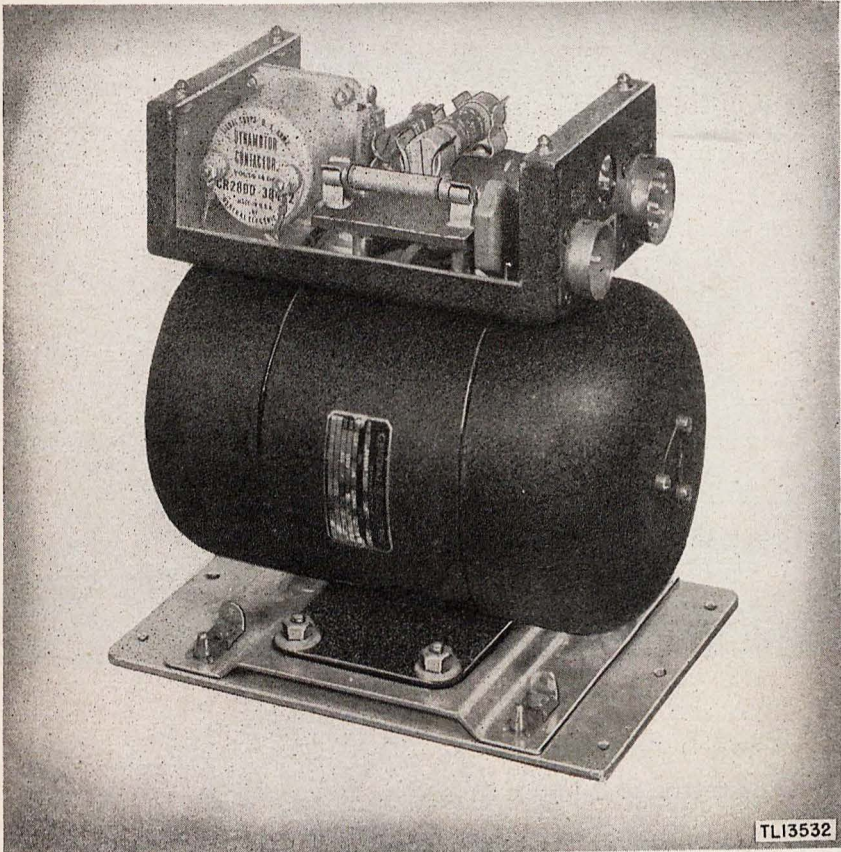

Figure 8. Dynamotor Unit BD-77-().
c. DYNAMOTOR UNIT BD-77-() (fig. 8). Dynamotor Unit BD-77() receives its power from a 12-volt storage battery and supplies high voltage to the transmitter. It is fastened to Mounting FT-107-() by means of four snap-slide catches. A relay fuse box is mounted on top